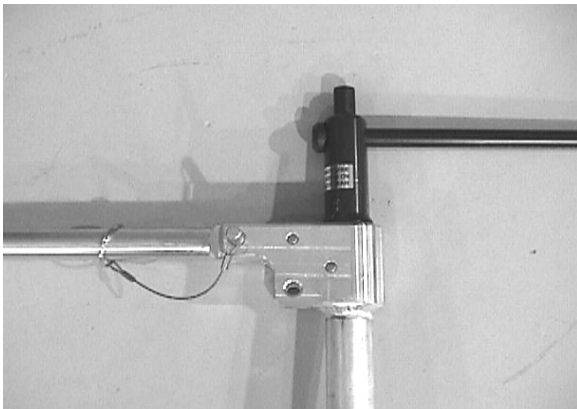

Figure 1
- 1) Inspect tool to ensure that it is clean and free from any debris that may hinder proper operation. The head and gauge plate assembly must be clean, free of dirt and debris to function properly. Open folding handle and secure with attached pin as shown at left. (figure 1)